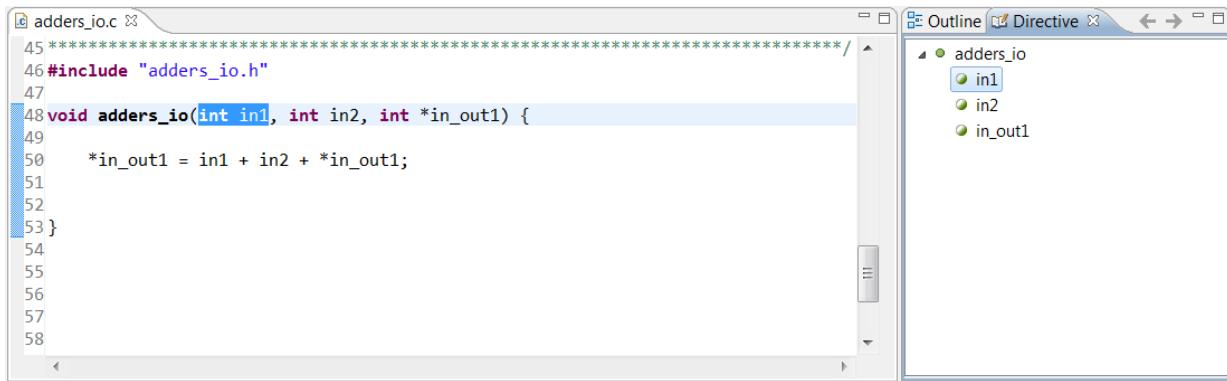

Figure 4-13: Adding Port I/O Protocols
2. Activate the **Directives** tab and select input argument **in1**, as shown in Figure 4-13.